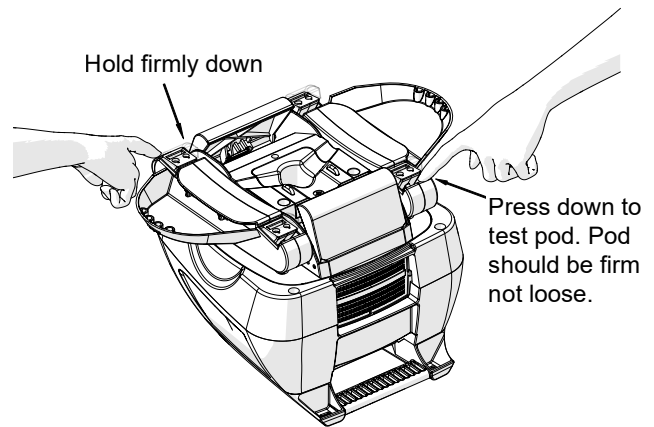

Fig. 17
3. With pressure applied, use your other hand and press down on the other pod, on the end that is raised. This is the pod being tested (see Fig 17).